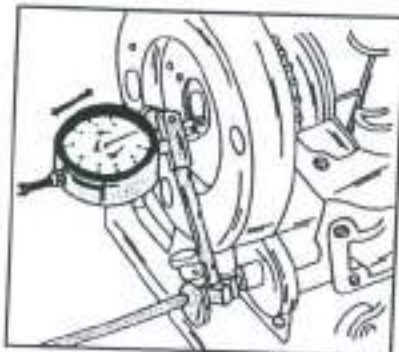

Fig. 1.48 - View of the cylinder block rear end, showing the attachment of the seal flange.
- Unscrew the oil seal flange from the rear of the cylinder block. Fig. 1.48 shows a view of the fitted oil seal flange.